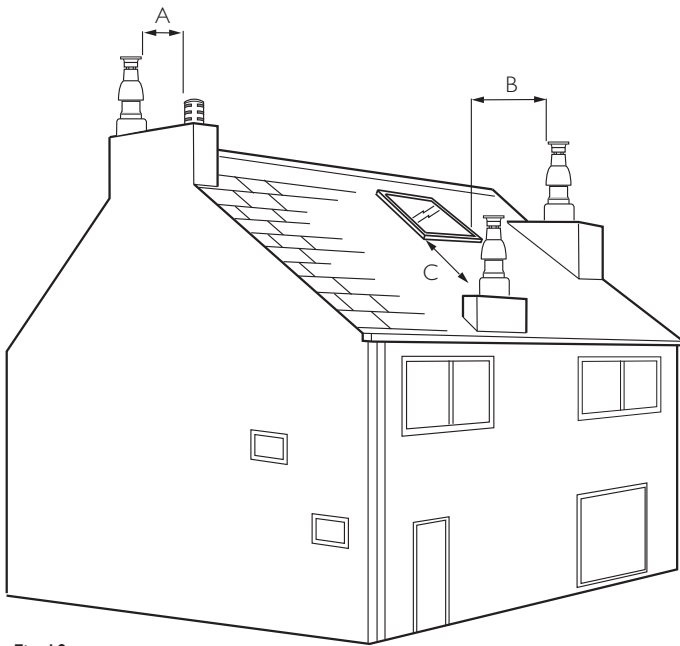

Fig. 10
6. It must also be a **MINIMUM** of 150mm from any other terminals or obstructions (A). When adjacent to windows or openings on pitched or flat roofs it must be at least 600mm away (B). A minimum dimension of 2000mm must be maintained when below windows or openings in pitched roofs (C) (Fig. 10).